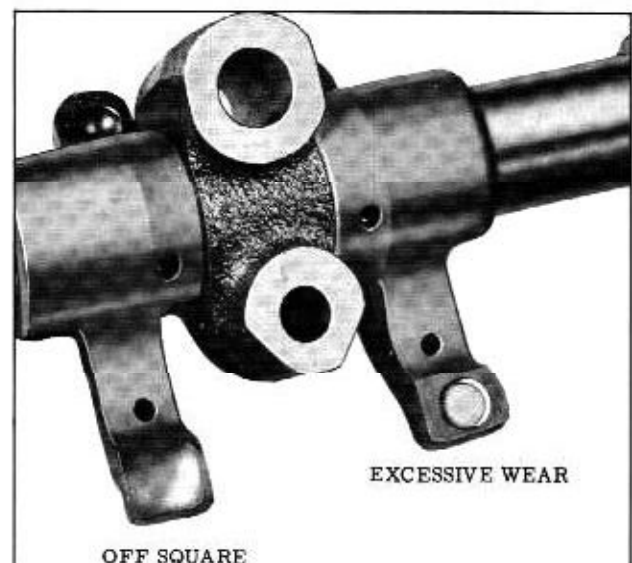

Fig. 8-20 Rocker Arm Wear Patterns
- b. Observe rocker arm pad for excessive wear or excessive off square. Replace as required. (Fig. 8-20)